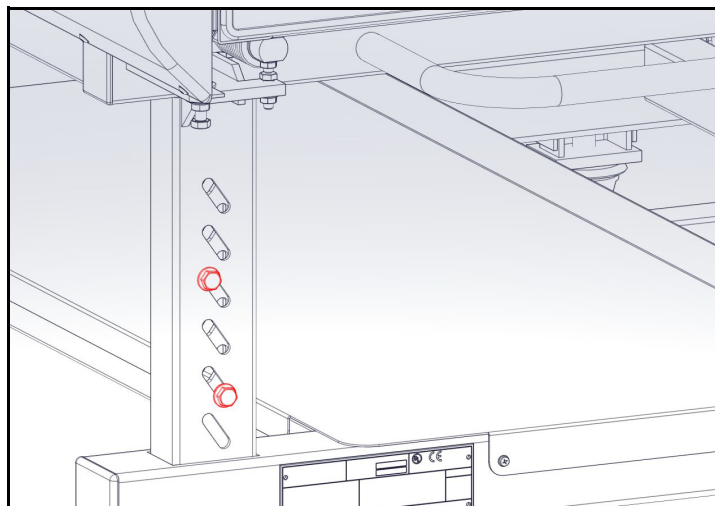

Figure 4
3. Locate the retaining bolts and slotted adjustment holes in the frame legs (see Figure 4).
7. When the desired height is achieved, push the retaining bolts through the slotted holes in the frame and leg. There should always be at least two openings that the bolts will pass through. If possible, place the bolts with at least one slot between them as shown in Figure 4.